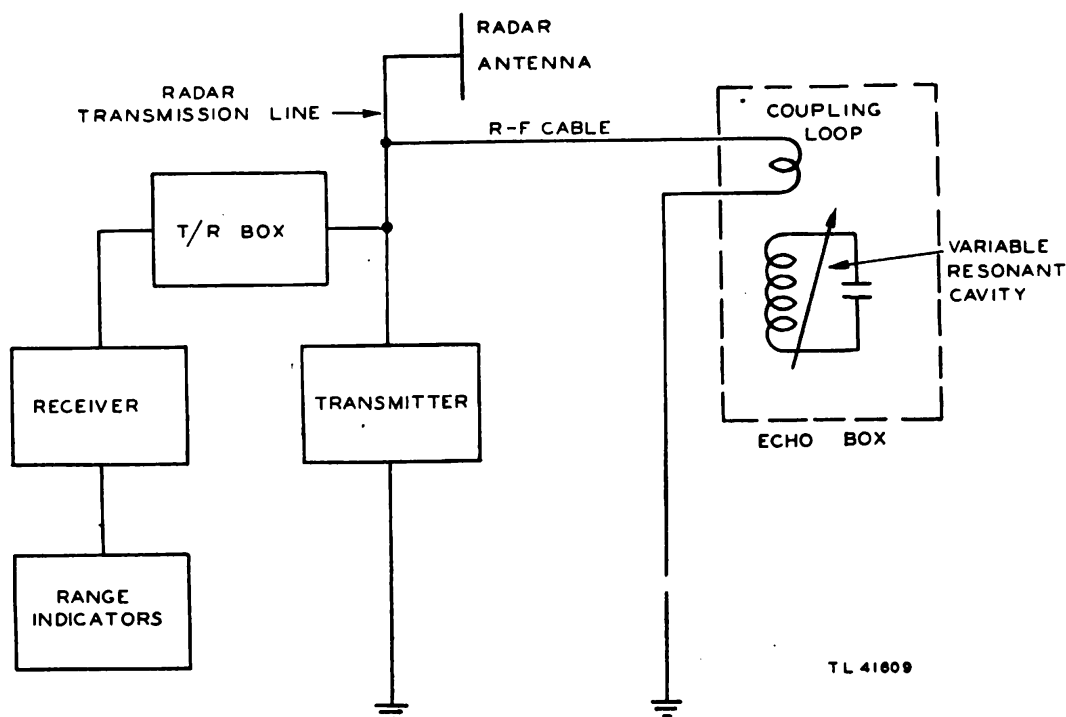

Figure 7. Equivalent echo box circuit.
b. Resonant Cavity of Echo Box. Electrically the echo box cavity is equivalent to sharply tuned inductance-capacitance (L-C) resonant circuit with a very high Q (fig. 7). It is not correct, however, to consider any particular part of the box as either the capacitance or inductance of the equivalent circuit. The frequency to which the box is resonant is dependent upon the physical size of the resonant cavity, which may be changed by moving the plunger. When the length of the cavity is decreased, the resonant frequency is raised. When the length of the cavity is increased, the resonant frequency is lowered.